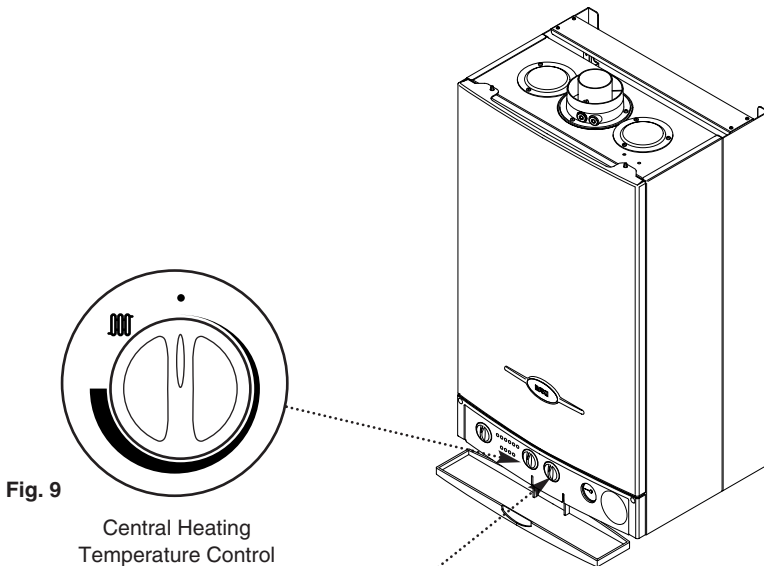

Fig. 9
2. Turn the control knob clockwise to increase the temperature (Fig. 9).